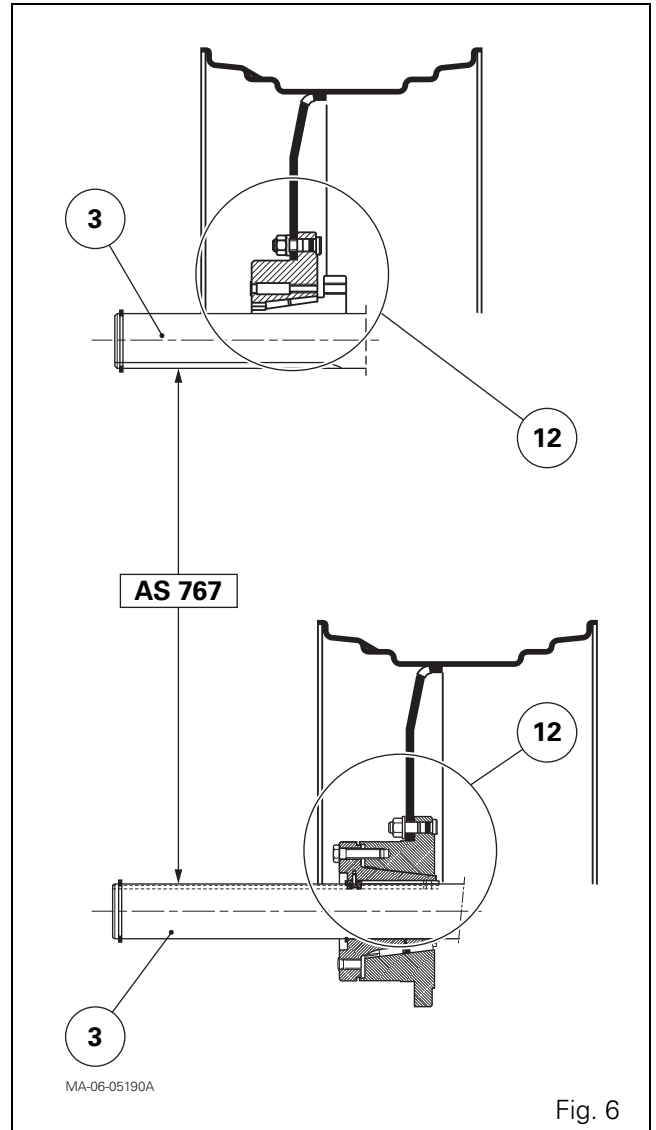
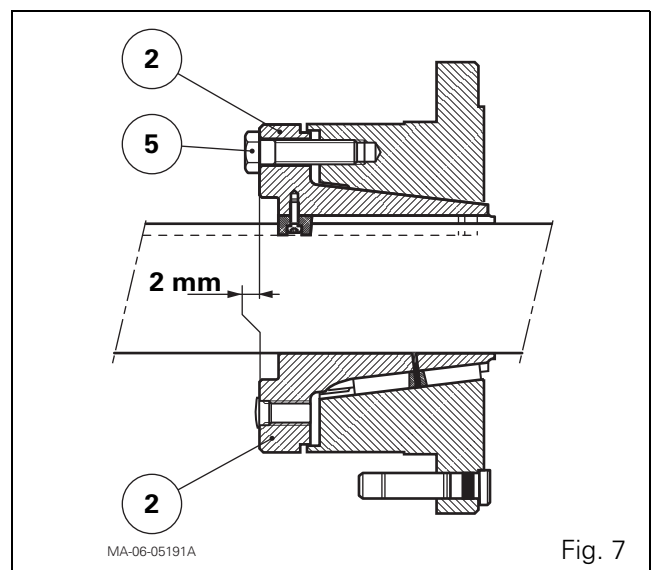

Fig. 6
Fig. 7
IMPORTANT 1: The tapered parts of the hub (12) (Fig. 6) must not be greased.
IMPORTANT 2: Lightly smear the rim of the plain shaft (3), over its whole length, with AS767 grease or equivalent (Fig. 6). This precaution prevents corrosion and assists the smooth sliding of the male cone (1) or single cones (2) (depending on version) on the plain shaft for future wheel track adjustments.
8. Pull or push the wheel with the help of an operator in order to slide the hub (12) onto the plain shaft and to obtain the required track.
9. Loosen the screws (5) used to extract the hub taper mechanism (12). Check their condition. Replace them if necessary. Screw them into their original position.
10. Tighten the screws (5) equally in opposite pairs (see tightening torque in § B).
IMPORTANT: For versions with \varnothing 110 mm plain axle shaft, after tightening the screws (5), a 2 mm face offset between each single male cone (2) is allowed (Fig. 7).
11. Partially fill the extraction holes on the hub (12) or male single cones (2) (depending on version) with bearing grease. Plug the extraction holes with "plastic" plugs.